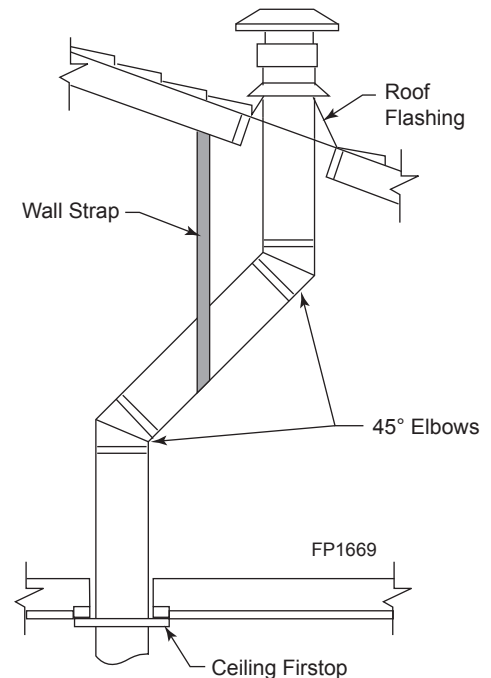

Figure 33 -
1. Determine the route your vertical venting will take. If ceiling joist, roof rafters or other framing will obstruct the venting system, consider an offset. Refer to Figure 33 to avoid cutting load bearing members.